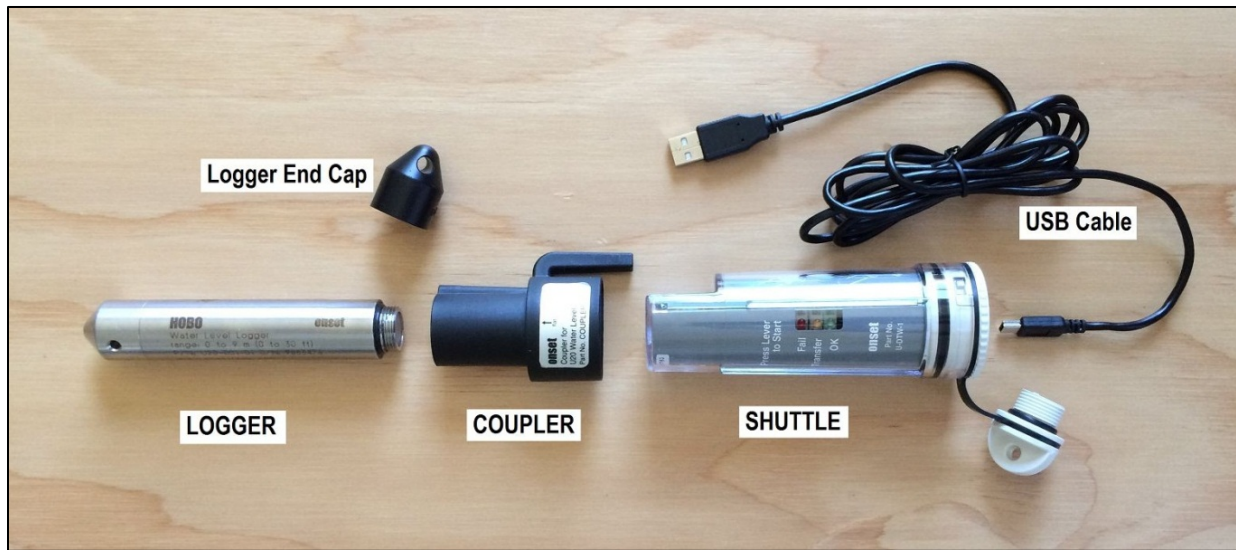

Figure B 1. HOBO data logger and auxiliary components.
1. Attach black plastic coupler to the waterproof shuttle (Figure B 1).